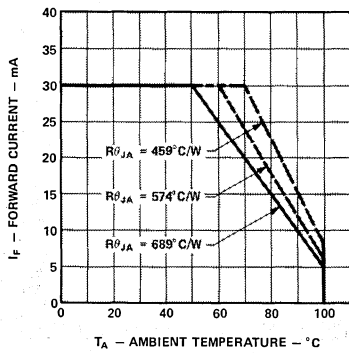

Figure 5. Maximum Forward DC Current vs. Ambient Temperature. Derating Based on $T_J \text{ MAX} = 110^\circ \text{C}$.
3. Derate linearly as shown in Figure 5.